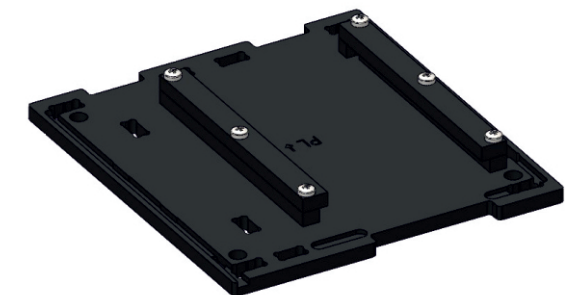

Fig. 35: Installing straight guide rails
2) Place straight guide rails on top of them and hold them down to the base plate using six M3x12 screws (Fig. 35):